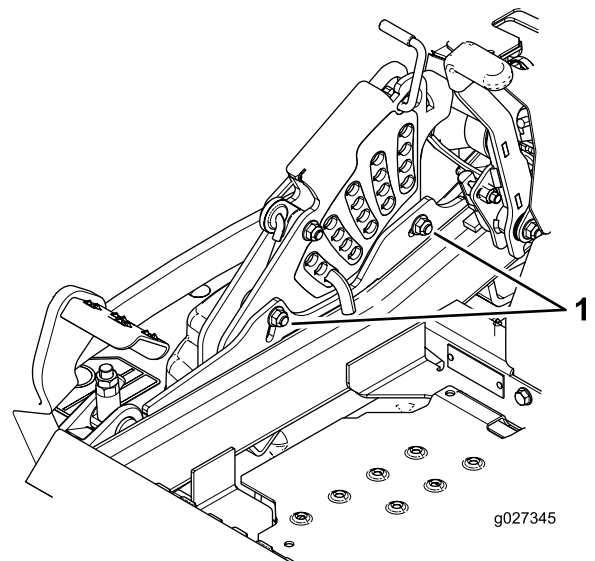

Figure 87
12. To adjust the single-point system, loosen the 2 bolts at the bottom of the height-of-cut plate. Refer to Figure 87.
14. Tighten the 2 bolts at the bottom of the height-of-cut plate (Figure 87). Torque the bolts to 37 to 45 N·m (27 to 33 ft-lb).